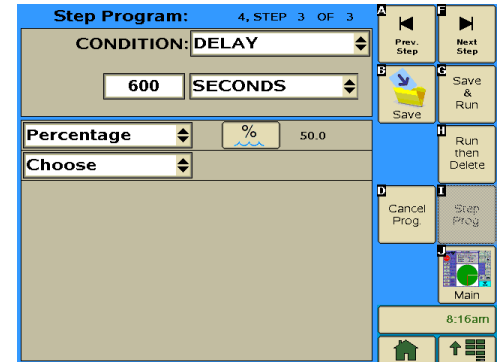

Figure 131-2
11. Program the delay time condition for this step. Refer to Figure 131-2.